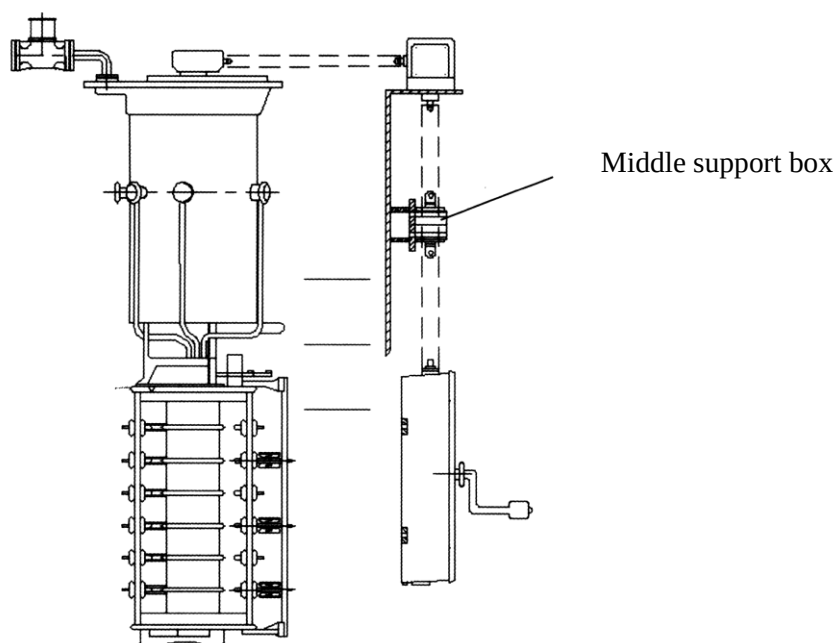

Figure 49 Drive shaft connection
- 2) Connect the drive shaft with motor drive unit and tap-changer according to the instruction manual of Huaming motor drive unit. (Figure 49)